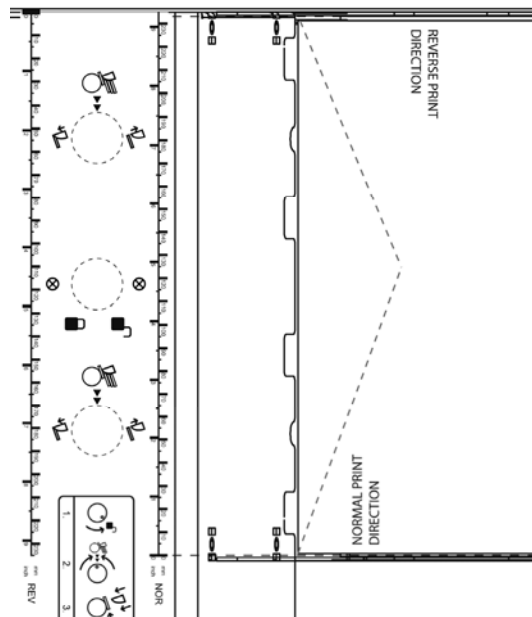

Figure 13: Positioning the material
- Put in one medium in the feeder according to your desired print position. Use the ruler to determine the position. Please note that the print directions NOR (Normal) and REV (Reverse) have different zero positions (see Figure 13). For further information about the print direction please see chapter **5.6 „How to set the print direction (orientation)“**, on page 39.